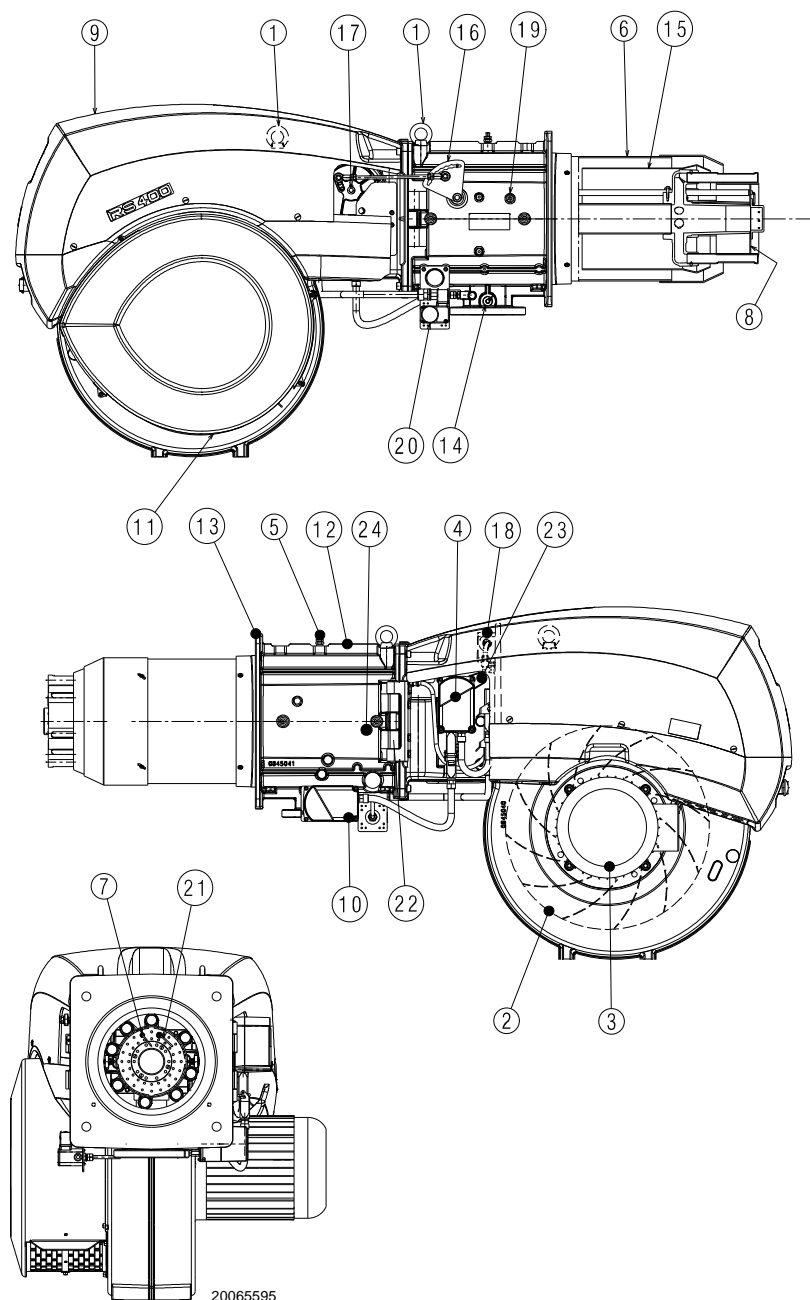

Fig. 4
- (1) Reference conditions: Ambient temperature 20°C - Gas temperature 15°C - Barometric pressure 1013 mbar - Altitude 0 m a.s.l.
(2) Pressure at the test point of the pressure switch (20)(Fig. 4) with zero pressure in the combustion chamber and at maximum rated output.
(3) Sound pressure measured in manufacturer's combustion laboratory, with burner operating on test boiler and at maximum rated output. The sound power is evaluated, in line with the regulations, on a spherical surface centred on the burner and with a radius of 1 metre.